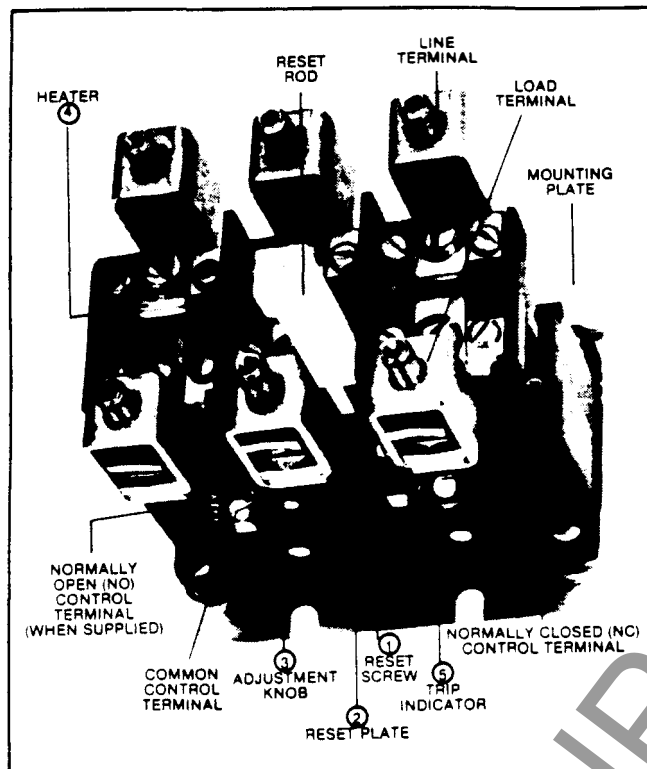

Fig. 1 Size 4 Overload Relay for Panel Mounting
The strip bimetals in the OLR are indirectly heated by the replaceable heater elements (Item 4 in Figure 1) which carry the motor current. Excess heat is generated in these heater elements by an overloaded motor. The heated bimetals deflect to open the normally closed contact, thereby opening the coil circuit of a magnetic contactor which disconnects the overloaded motor from the line. After approximately 2 minutes, the relay if hand reset may be reset by pressing the reset rod. For relays in the auto position, resetting occurs automatically.
The overload relay is normally furnished set for "HAND" reset operation. The relay may be set for either "HAND" or "AUTO" reset by slightly loosening the screw (1) holding the reset plate (2), moving the plate to the proper position marked on the molded case (away from the panel for "Hand" reset and toward the panel for "Auto" reset) and retightening the screw. (See Figure 1).
An immediate visible indication of trip is standard on the Type A overload relay. When an overload occurs, which causes the relay to operate, a trip indicator (5) projects out through a small opening at the bottom of the relay. (See Figure 1.)